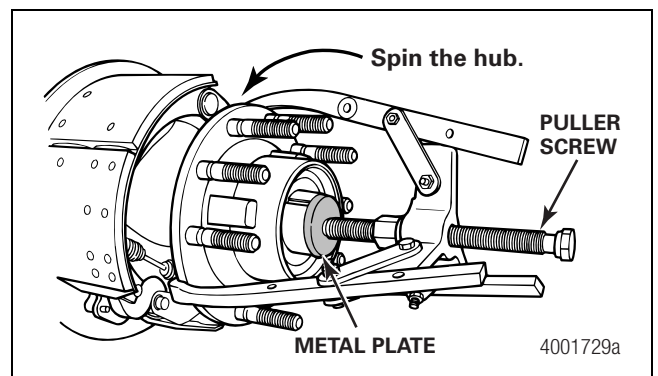

Figure 3.18
- Install a metal plate onto the end of the spindle. Figure 3.18.
- Attach a three-pronged puller to the hub. Figure 3.18.
- While holding the puller screw stationary, spin the hub to break it free from the axle. Figure 3.18.